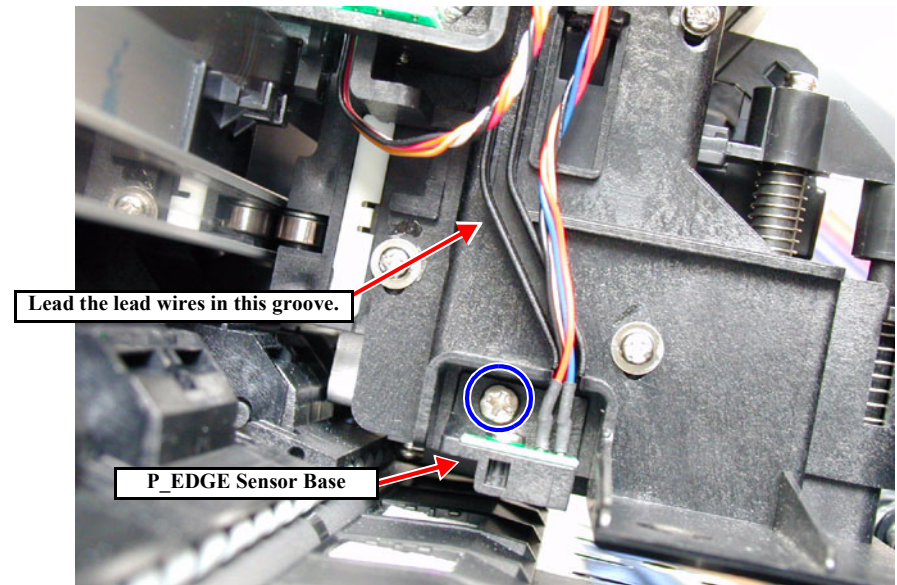

Figure 4-40. Removing the P_EDGE Sensor ASSY 2/2
8. Remove the one screw (M3×6) securing the EDGE Sensor Base ASSY and remove the EDGE Sensor Base ASSY. (See Figure 4-40)
REASSEMBLY  After installing the P_EDGE Sensor ASSY on the Cutter Holder ASSY, fasten the harness to the harness holding path of the Cutter Holder ASSY. (See Figure 4-40)